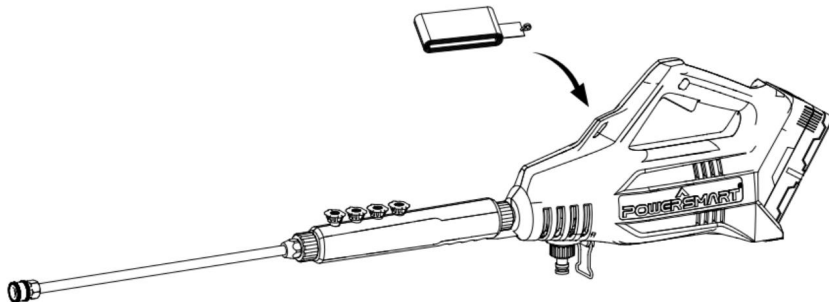

Fig.6
1. Install the straps as Fig.6 shown.